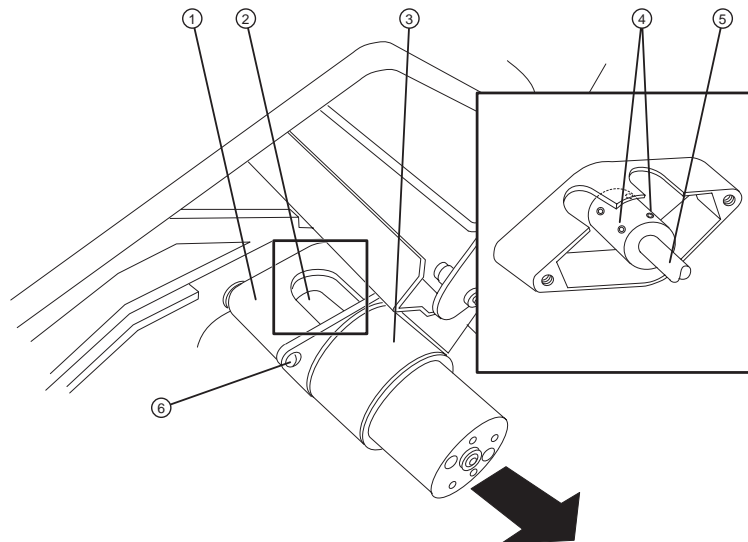

Figure 4-46 Removing the select motor coupler.
The coupler housing will have two access holes, one for each set of allen screws. Refer to Figure 4-46. These allen screws secure the motor shaft to the coupler.
5. Loosen one set of allen screws securing the motor shaft to the coupler. Refer to Figure 4-46.
6. Remove the two (2) hex screws securing the motor bracket to the housing. Refer to Figure 4-46.